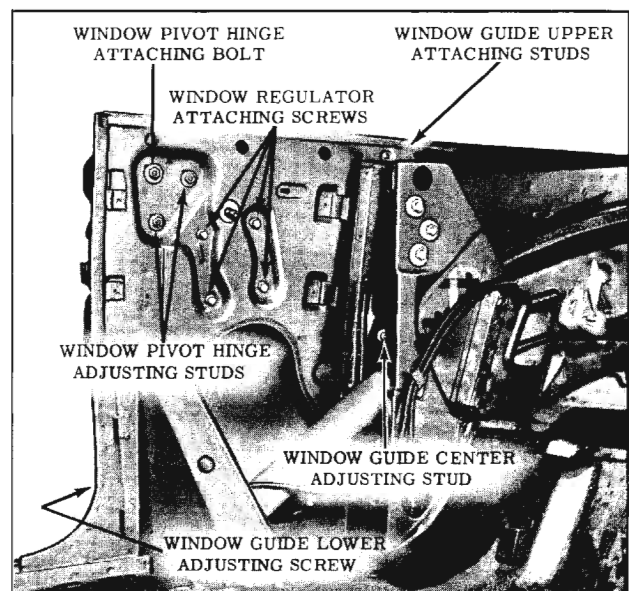

Fig. 16-272 Rear Quarter Hardware (67 Styles)
2. Remove window pivot bolt (Fig. 16-272).
To adjust the forward travel and up travel of the rear quarter window, loosen the window guide upper attaching stud nuts. (Fig. 16-272) Adjust upper stop to desired position and tighten guide attaching screws.
1. Up or down or fore or aft adjustment: Loosen pivot bolt and both adjusting stud nuts. (Fig. 16-272) Position window, as required, and tighten pivot bolt and stud nuts.
2. Top of window in or out adjustment: Loosen lower adjusting stud nut and slightly loosen rear stud nut. (Fig. 16-272) Adjust lower stud in or out, as required, then tighten both stud nuts.
3. Rear of window in or out adjustment: Loosen pivot hinge rear adjusting stud nut and slightly loosen lower adjusting stud nut. (Fig. 16-272) Loosen window guide upper and center attaching screws. Adjust rear adjusting stud in or out, as required, then tighten both stud nuts. Adjust window guide for proper alignment with window and tighten guide upper and center attaching screws.
3. Remove window regulator attaching screws. (Fig. 16-272) Disengage roller on regulator
2. Remove window guide upper, center, and lower attaching stud nuts and screws. (Fig. 16-272)